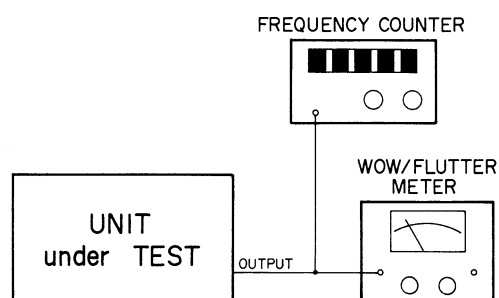

Fig. 5-6-1
- C. Connecting diagram : Refer to Fig. 5-6-1